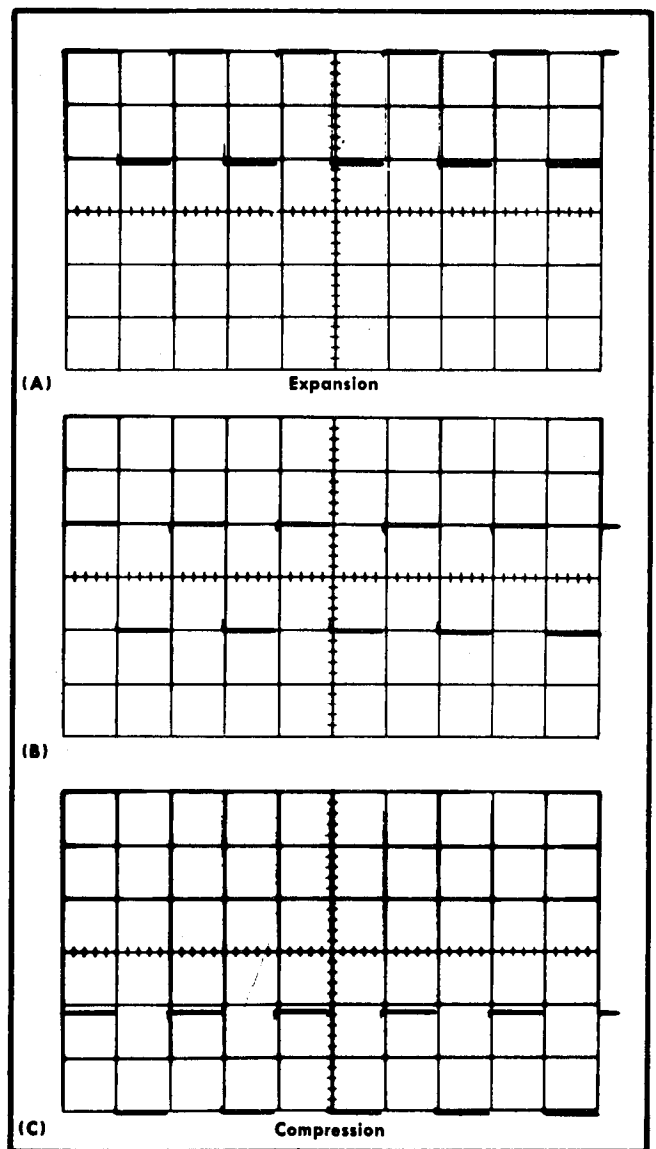

Fig. 6-19. Typical CRT display showing acceptable compression and expansion. (A) Expansion, (B) correct deflection at center of graticule, (C) compression.
- e. CHECK-Compression or expansion 0.15 division or less (see Fig. 6-19).
- g. CHECK-Compression or expansion 0.15 division or less (see Fig. 6-19).
- l. CHECK-Compression or expansion 0.15 division or less (see Fig. 6-19).
- n. CHECK-Compression or expansion 0.15 division or less (see Fig. 6-19).